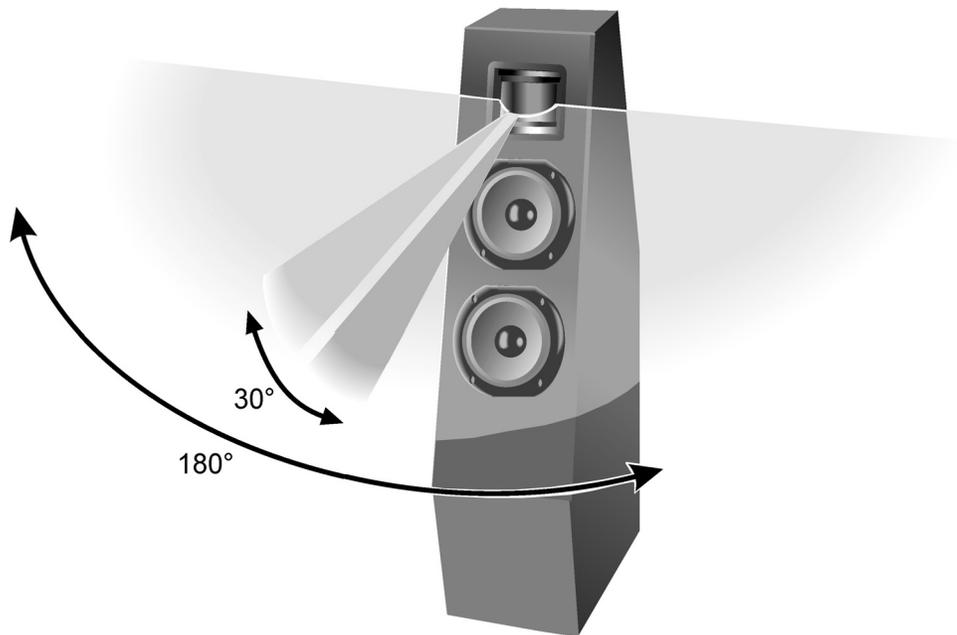

Figure 1. Dispersion Pattern of the CDT3 Tweeter
**CDT 3™ Tweeter:** The Classico CL-3 uses our patented CDT Cylindrical Diaphragm Transducer (CDT 3) for high-frequency reproduction. On its own, the CDT 3, with its cylindrically shaped high-frequency diaphragm, delivers smooth treble response across an amazing 300-degree range! Once it's built into the Classico models, it provides a full 180° high-frequency dispersion pattern (3 kHz - 21.5 kHz) (Figure 1). This allows substantial positioning flexibility, since consistent high-frequency response is delivered both on and off-axis. That means soundstaging and imaging are enhanced while there'll be more "good seats" in your listening room, so more people will hear all the sound, particularly important in a surround sound setup.